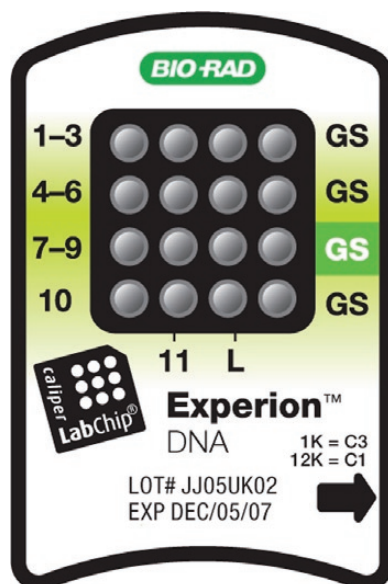

Fig. 3.2. Experion DNA chip. Wells for loading buffer, samples, GS, and ladder are indicated.
1. Pipet 9 μ l GS into the 3 other wells labeled **GS** (Figure 3.2).
2. Pipet 5 μ l DNA loading buffer (yellow cap) into each sample well and the ladder well (wells **1–11** and **L**, Figure 3.2) .